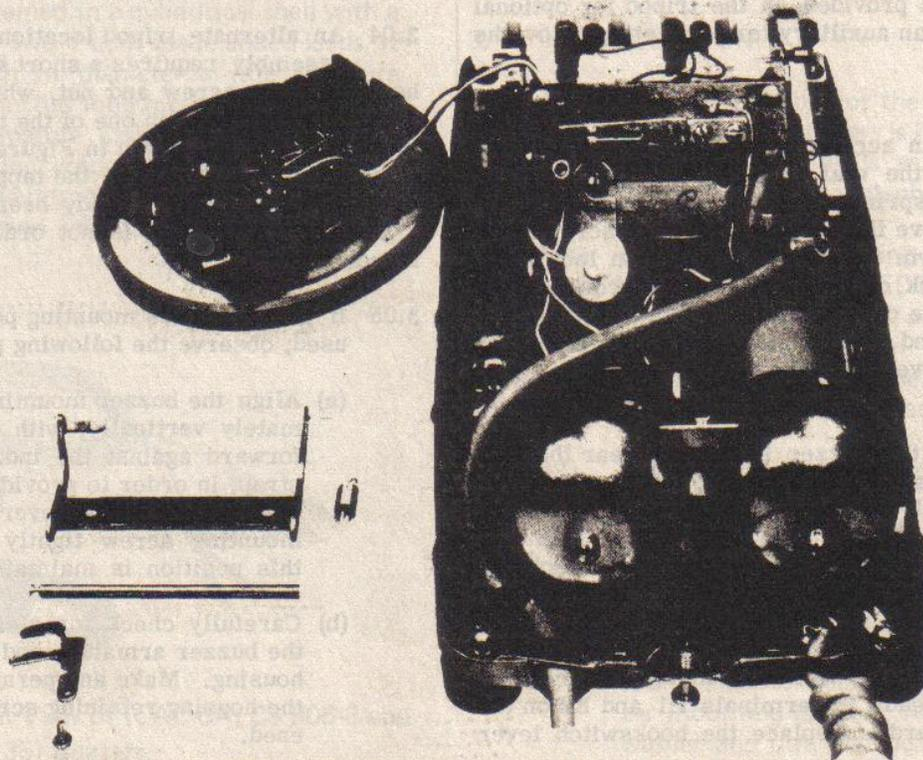

Figure 2. QBX1A Buzzer Mounted on Rear of Tripod.
3.03 Mount the buzzer in the hole near the network side of the tripod, sliding it as far down toward the network as possible before tightening the screw (see Figure 2). This will usually permit use of the installer's hooklock feature, although this is not important on a Type 87A instrument. Dress the leads from the network carefully under the buzzer mounting tab to avoid interference with the armature, and connect the buzzer leads to terminals E1 and E2 on the terminal board. Replace the hookswitch lever